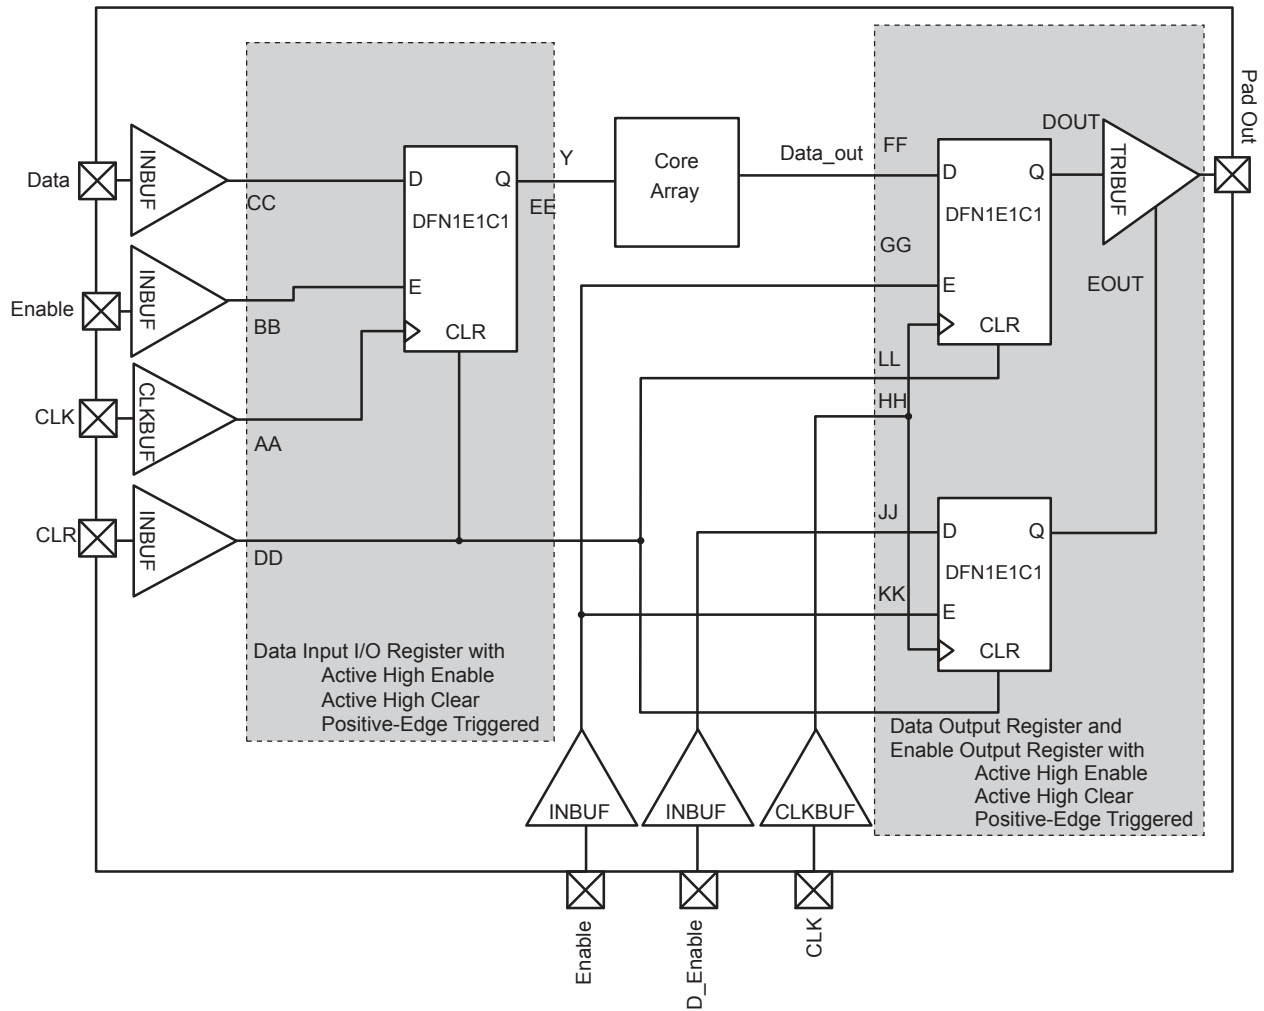

Figure 2-29 • Timing Model of the Registered I/O Buffers with Synchronous Enable and Asynchronous Clear
* See Figure 2-29 on page 2-93 for more information.